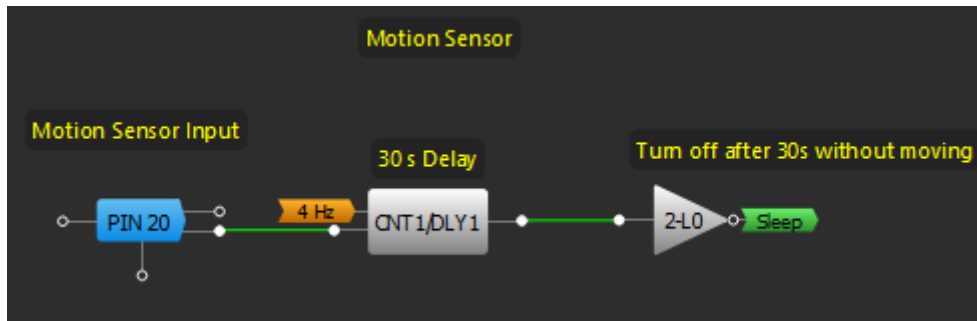

Figure 7 Motion Sensor
- Figure 7 Motion Sensor6
The lamp has a PIR motion sensor to decrease power consumption. The configuration can be found in Figure 7.